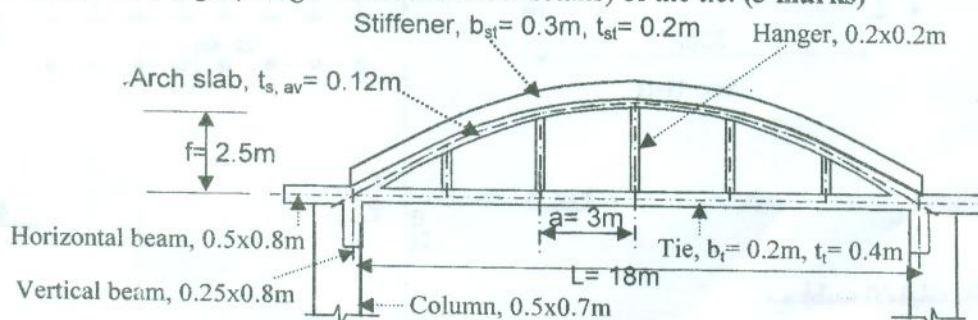

Fig. 2
- Fig. 2 shows a sectional elevation of an arched slab supported on columns spaced, $S=5\text{m}$. The concrete dimensions of the arched slab elements are given in the figure. Consider the following loads of the slab: dead load, $g=5\text{kN/m}^2$, live load, $p=1.5\text{kN/m}^2$. It is required to carry out the following: